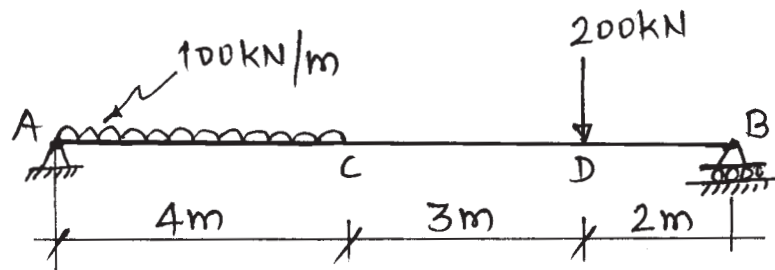

Fig. No. 1
- d) A simply supported beam is loaded as shown in Fig. No. 1. Draw shear force diagram and locate the position from support 'A' where B.M. is maximum. Also calculate value of Maximum B.M.